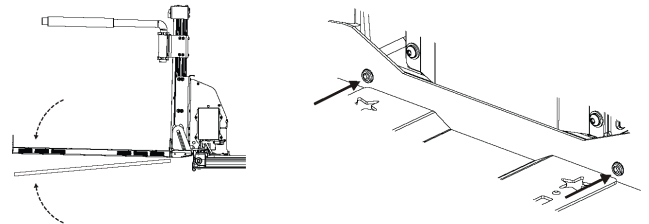

Figure 4-42
3. The platform will come with the tilt adjusted to be parallel to the ground. If the angle of the platform needs to be adjusted, the platform can be tilted by adjusting the set screws and nuts on the back flange of the platform. *See Figure 4-42.*